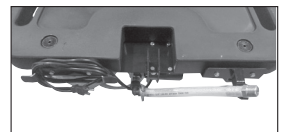

Figure 4
8. Flip drain back over and replace screen onto drain. Wrap pump cord around cord wrap bracket (Figure 4).